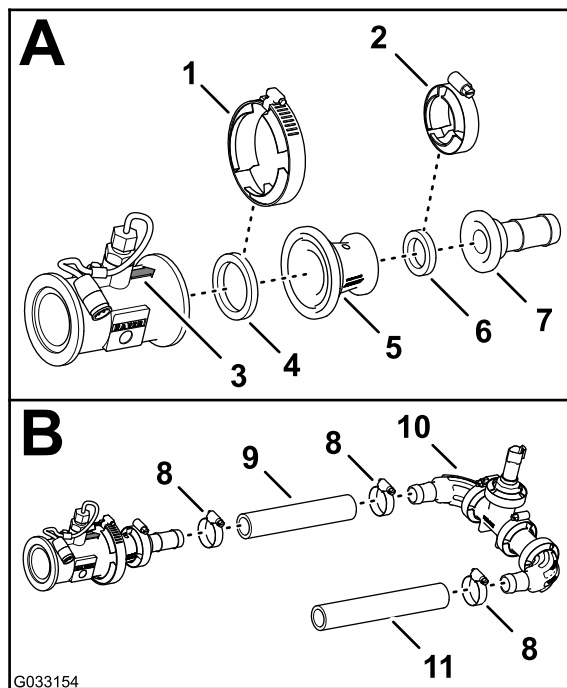

Figure 83
2. Secure the flow meter and gasket (2-1/4 inch outside diameter) to the adapter (Figure 83) with a flange clamp 76 mm (3 inches) that you removed in steps 2 and 3 of Removing the Connector Tube and Reducer Adapter (page 22).
3. Align the gasket (2-1/4 inches) and barbed hose fitting to the end of the reducer adapter (Figure 83).
4. Secure the barbed-flange fitting, gasket, and reducer adapter (Figure 83) with a flange clamp 51 mm (2 inches).
5. Assemble the hose (1 x 7-1/4 inches) onto the barbed-flange fitting and the barbed elbow fitting of the pressure transducer and manifold as shown in Figure 83.
6. Secure the hose and barbed fittings with 2 hose clamps (Figure 83).
7. Assemble the hose (1 x 8-1/2 inches) onto the other barbed elbow-fitting of the pressure transducer and manifold as shown in Figure 83.
8. Secure the hose and barbed fitting with a hose clamp (Figure 83).
1. Align the gasket (2-1/4 inches) and reducer adapter that you removed in step 4 of Removing the Connector Tube and Reducer Adapter (page 22) to the end of the flow meter to which the directional points (Figure 83).